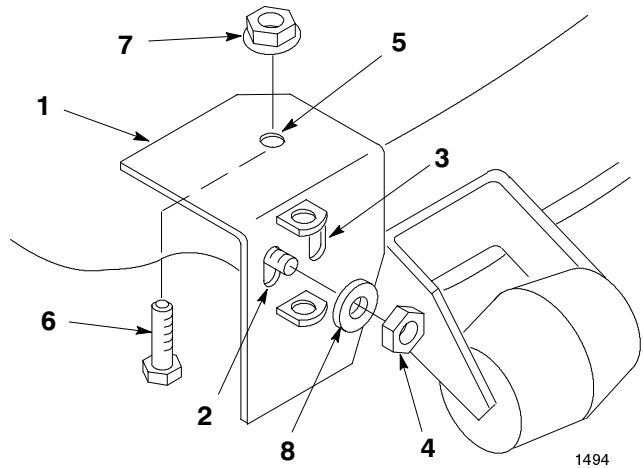

Figure 9
1. Select the proper hole in the pivot support (42" deck-outside, 48" deck-inside) and slide it over the threaded stud welded to front of mower near discharge opening (Fig. 9).
2. Align pivot support parallel with front curved edge and tight against top of mower (Fig. 9). Clamp in this position.
3. Drill a 11/32" diameter hole in the top of the mower deck using the pivot support as a guide. Secure the pivot support to the mower with a 5/16 x 3/4" (19 mm) bolt, through from the underside of the mower, and a flange nut (Fig. 9). Place the 3/8" jam nut (removed from discharge chute) snug onto stud. Do not overtighten jam nut.